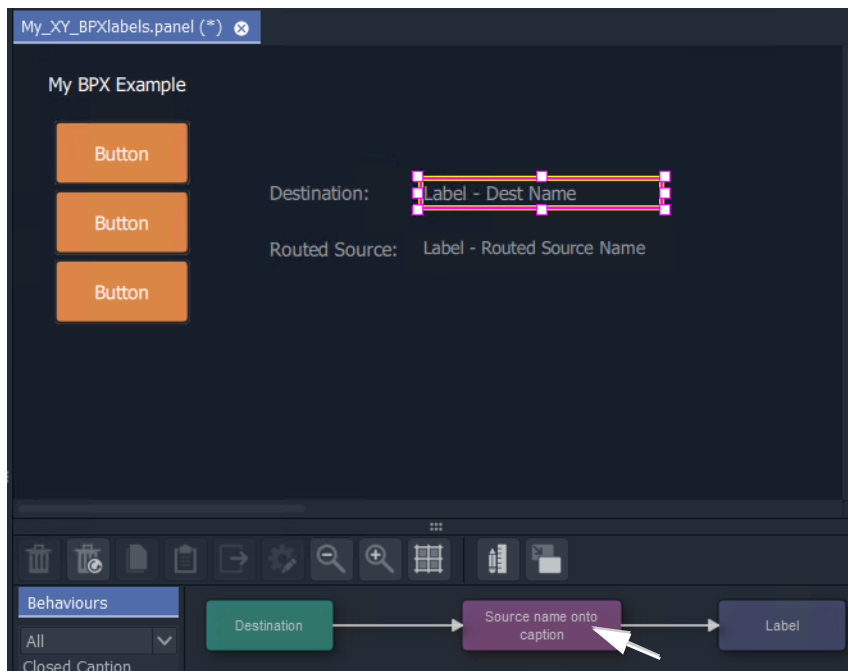

Fig. 6-57: Select a Label
- 8 Select the Label to see its Behaviours and Bindings. See Figure 6-57.